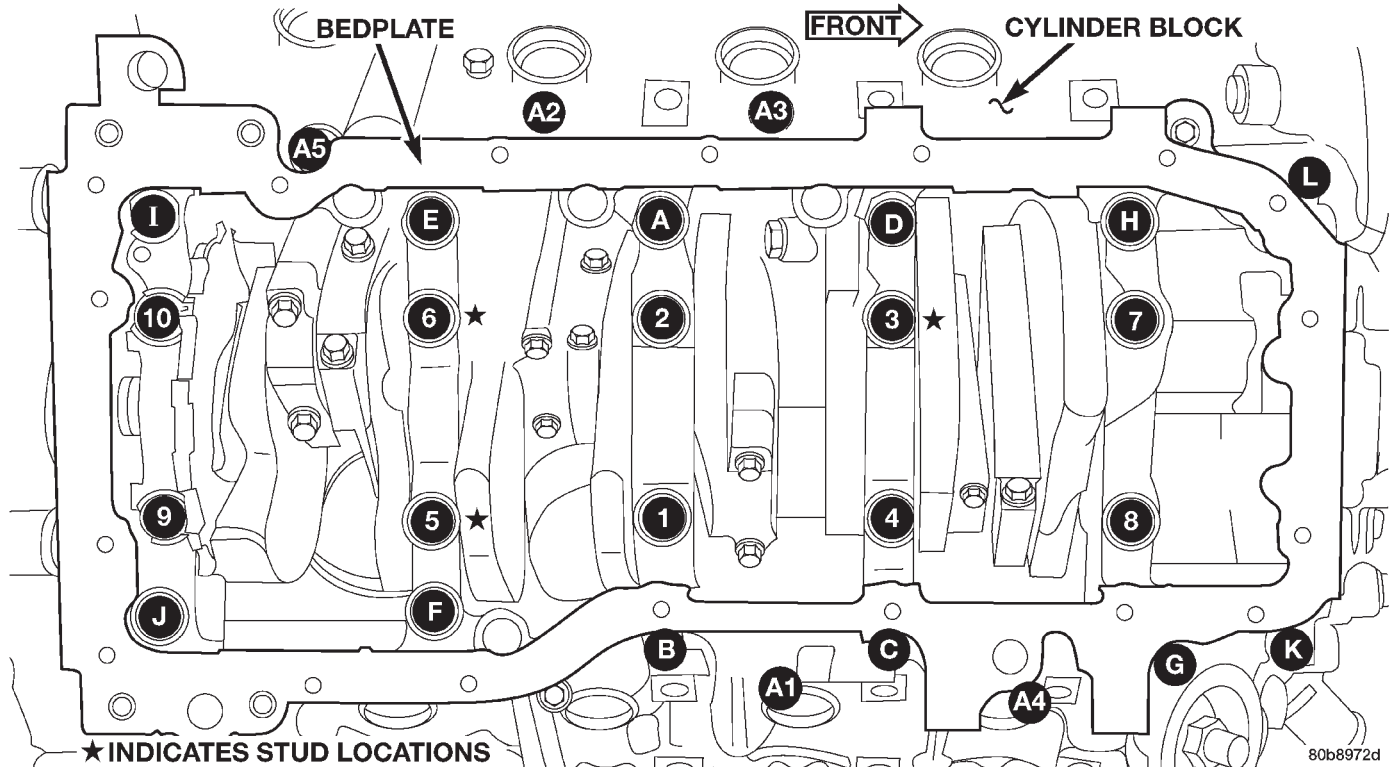

Fig. 102 Bedplate Tightening Sequence
(7) Install the bedplate retaining bolts, making sure to place the stud bolts in the correct location. Torque the bolts in the sequence shown (Fig. 102).